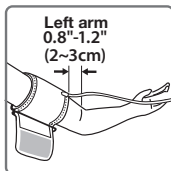
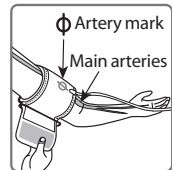

Fig. 3
Fig. 4
3. Put your arm through the cuff loop. The bottom of the cuff should be approximately 0.8" - 1.2" (2~3 cm) above elbow (Fig. 3). The tube should lie over the brachial artery on the inside of the arm (Fig. 4).